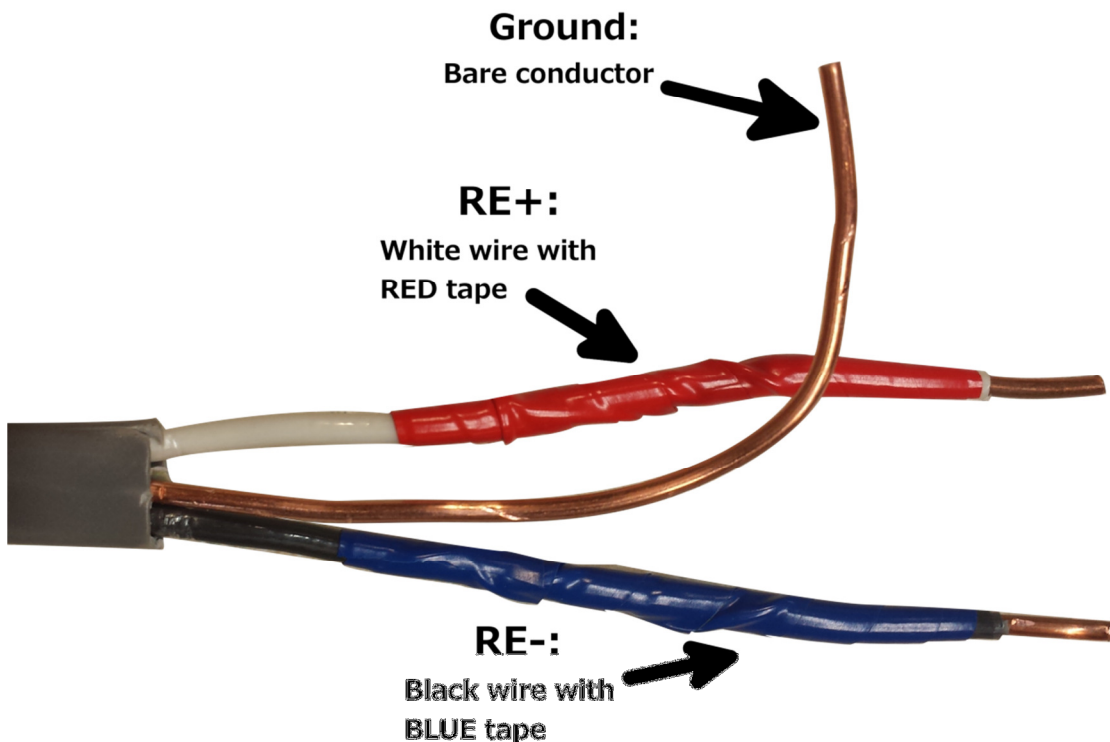

Figure 6 REbus™ Wiring Color Code
6. Run wires from REbus™ DC sources to inverter, connect to terminals (reference Figure 5 for wiring locations), torque to 2.1 Nm (18.5 in-lb). See Figure 6 REbus™ Wiring Color Code for wiring reference.